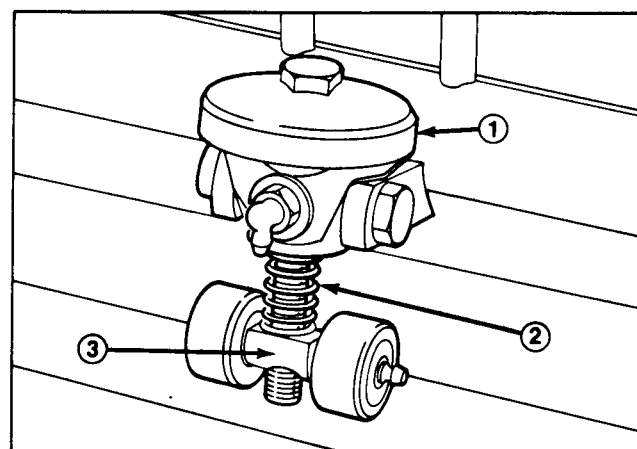

Figure 7
5. On each cutting unit, loosen (2) flange nuts securing reel motor to cutting unit. Twist motor clockwise to disengage from cutting unit and remove motor.
6. Slowly rotate reel, listening for reel-to-bedknife contact. If no contact is evident, TURN BEDKNIFE ADJUSTING KNOB CLOCKWISE, ONE (1) CLICK AT A TIME, UNTIL FIRST CONTACT IS FELT AND HEARD, THEN TIGHTEN ONE (1) MORE CLICK TO GET LIGHT CONTACT (Fig. 7).
7. If contact is felt, turn bedknife adjusting knob counterclockwise, one (1) click at a time until no contact is evident. Turn bedknife adjusting knob one (1) click at a time clockwise, until first contact is felt and heard, then tighten one (1) more click to get light contact.
1. Remove bedknife to reel contact by turning bedknife adjustment knob counterclockwise (Fig. 7).